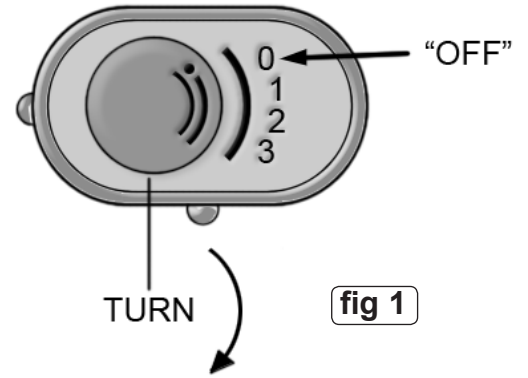

fig 1
- 3.1.3. Turn the fan on by rotating the control knob from "OFF" to "1". If a greater air flow is required turn the knob to the "2" or "3" setting (fig 1).